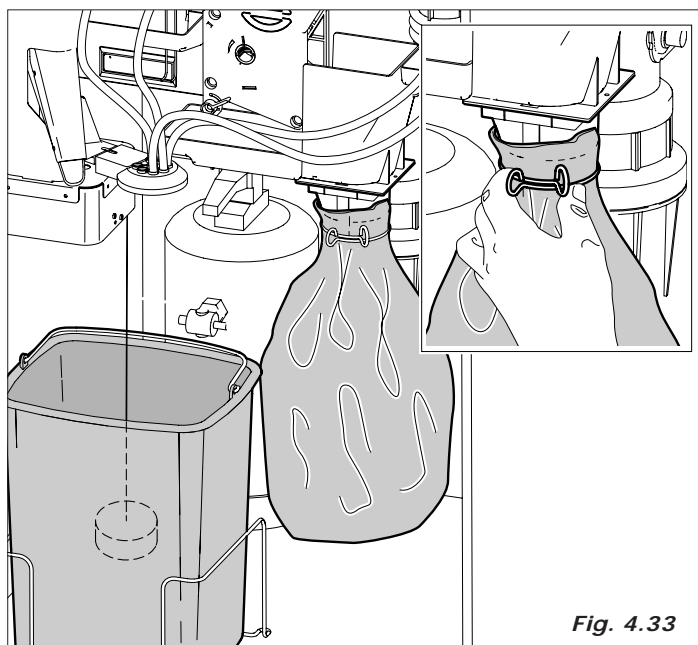

Fig. 4.33
- insert the plastic bag wrapping it on the support itself (Fig. 4.33)
- Make sure that the liquid collection tank is in the correct position (Fig. 4.33) and periodically empty it.